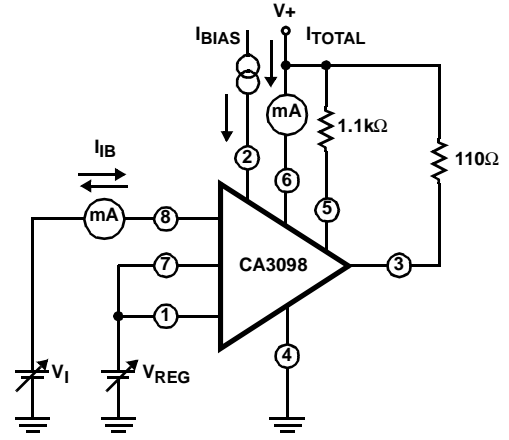

FIGURE 3. TOTAL SUPPLY CURRENT, AND INPUT BIAS CURRENT TEST CIRCUIT
Input Bias Current (Figures 3, 15)	$I_{IB}$
- For definition of  $V_{REG}$  see Figure 3.
- Continuous (DC) output current must be limited to  $\leq 40\text{mA}$ . For 100mA output current, the duty cycle must be  $\leq 40\%$ .
NOTE: See Figure 3 for definition of  $V_{REG}$